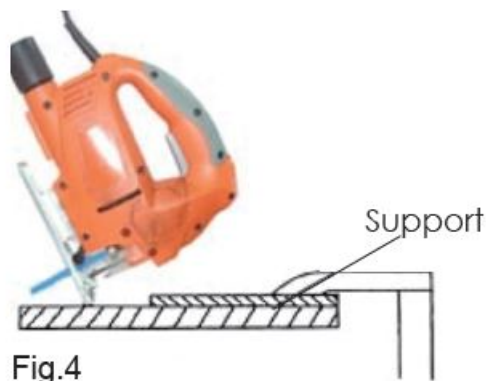

Fig.4
- Cutting veneered chipboard (Fig.4)